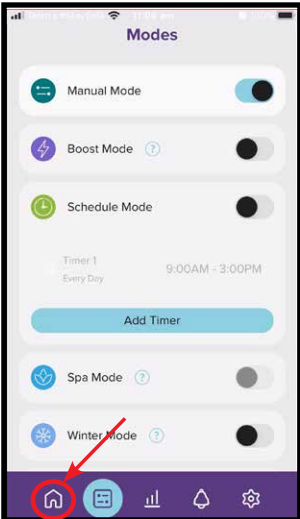

Figure 9.31
- To save the timers you've set, simply click save at the bottom of the screen. You can now return to the dashboard by using the home button (refer Figure 9.31), or activate Schedule Mode (refer Section 9.3.2.3).